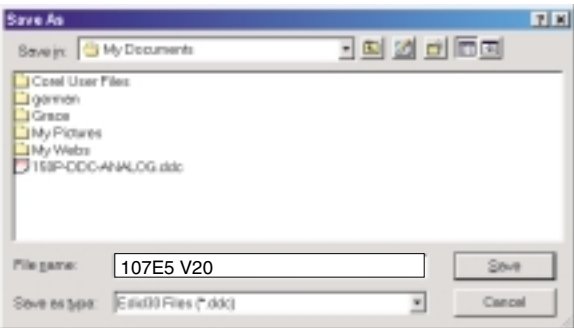

Fig. 19
1. Click  (Save) icon (or click "file"-> "save as") from the tool bar and give a file name as shown in Fig. 19. The file type is EDID301 file (*.ddc) which can be open in WordPad. By using WordPad, the texts of DDC data & table (128 bytes, hex code) can be modified. If DDC TEXTS & HEX Table are completely correct, it can be saved as .ddc file to re-load it into EEPROM for DDC Data application.